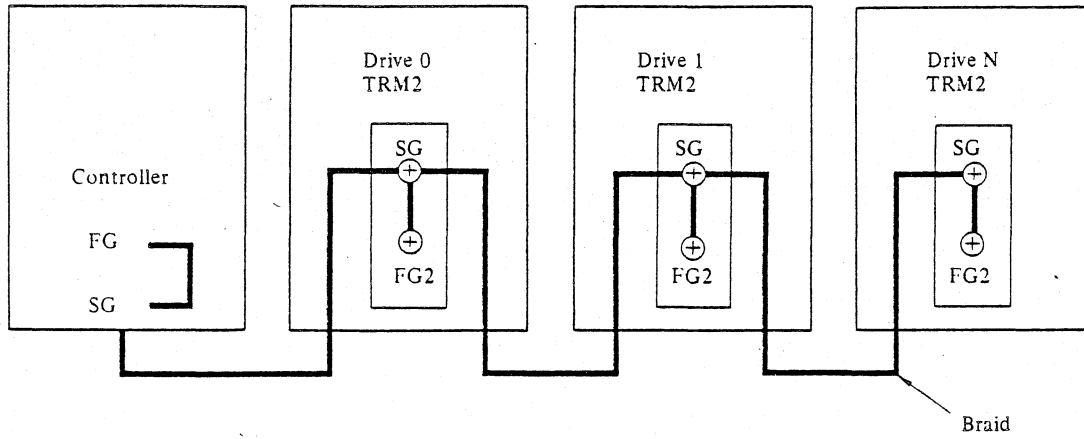

Fig. 4.3-2 SG/FG2 Common
- (a) Leave SG connected to FG2 (shipping configuration) and connect a flat braid wire to controller ground. If daisy-chained, daisy-chain the braid from SG to SG as shown in Figure 4.3-2.